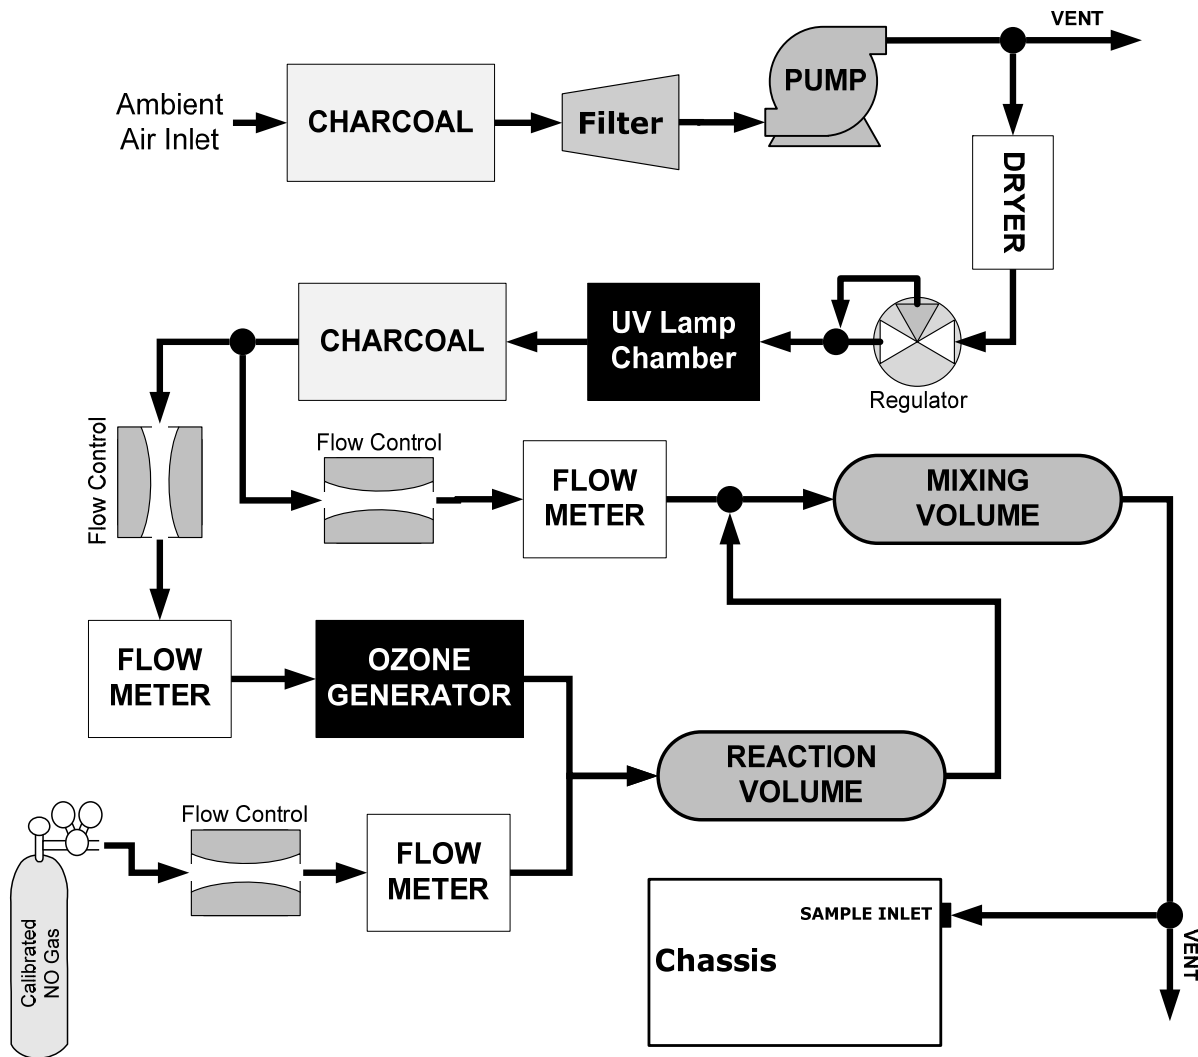

Figure 10-1: GPT Calibration System
- Given that the O3 concentration is known for this reaction, the resultant concentration of NO2 can be determined. Ozone is added to excess NO in a dynamic calibration system as shown in Figure 10-1, and the NO channel of the chemiluminescence analyzer detects the changes in NO concentration.